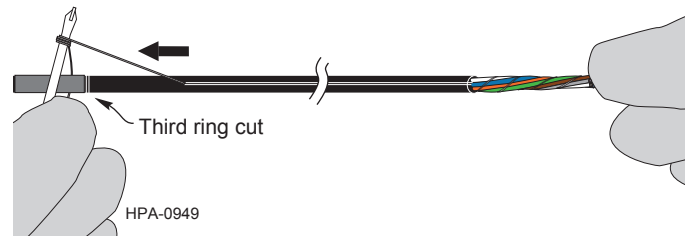

Figure 16
Step 8: Wrap the end of one of the exposed ripcords around the shaft of a small screwdriver and pull it through the outer jacket until it passes through the third ring cut at the tape wrap (Figure 16).